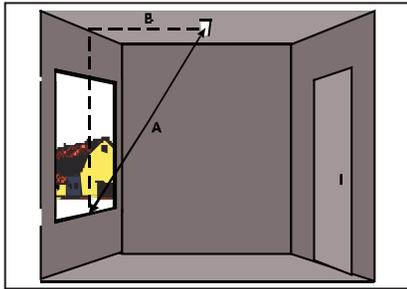

Figure 3.5: Ceiling mounting without the magnetic contact
- Make sure the detector is no further than 10 ft (3 m) from any corner of the glass (line A in *Figure 3.5*).
- The detector should be within  $\pm 30^\circ$  of the center of the glass to be protected (line B in *Figure 3.5*).